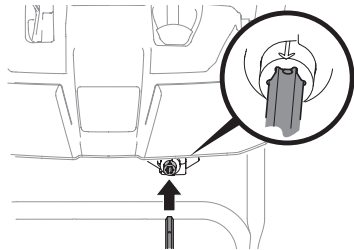

Figure 24
- Insert chute control rod into pinion gear under handle panel. Make sure to line up hole in rod with arrow on pinion gear (Figure 24).